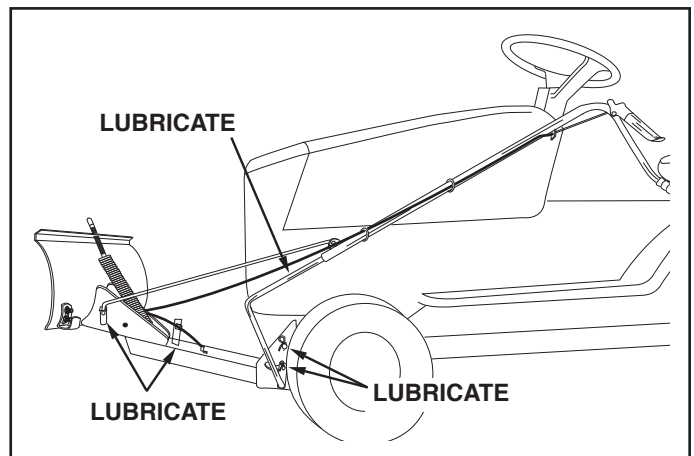

FIGURE 24
- Lubricate all pivot points to help maintain proper operation of blade. Apply a light coating of grease to the straight upper portion of the lift handle rod. See figure 24.
- Lubricate all pivot points and all points shown in figure 24, page 14 in the maintenance section.